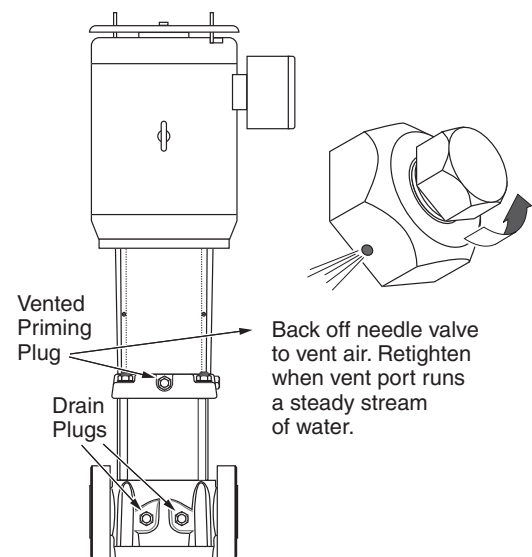

FIGURE 6 - Priming and Drain Plugs
1. Close the discharge isolating valve and loosen the needle valve located in the assembly in the pump head (Figure 6, Page 5). Do not remove the needle valve.